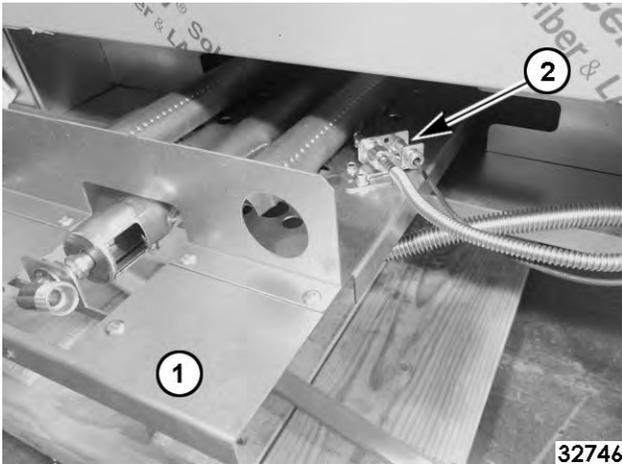

Fig. 45
6. Pull burner drawer box (1, Fig. 45) out from the oven.
7. Remove pilot assembly (2, Fig. 45) from oven deflector.